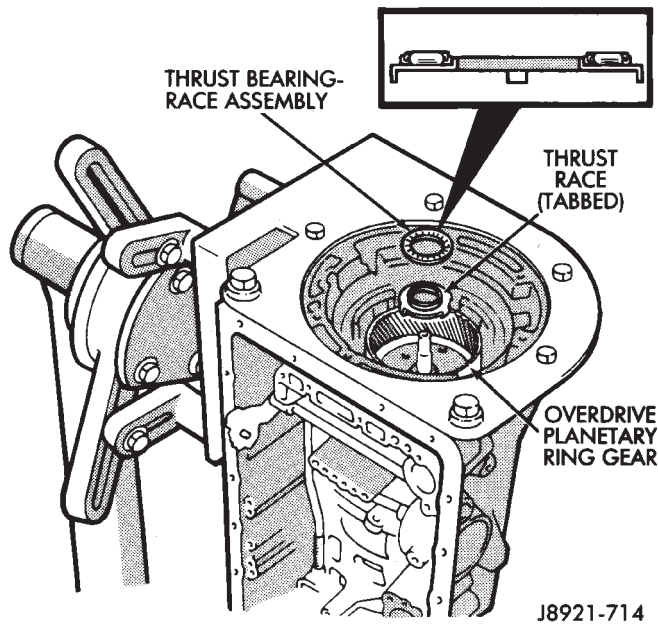

Fig. 47 Installing Ring Gear Thrust Bearing And Race
(58) Coat ring gear thrust race and thrust bearing assembly with petroleum jelly and install them in gear (Fig. 47).
(59) Verify bearing/race size before proceeding.